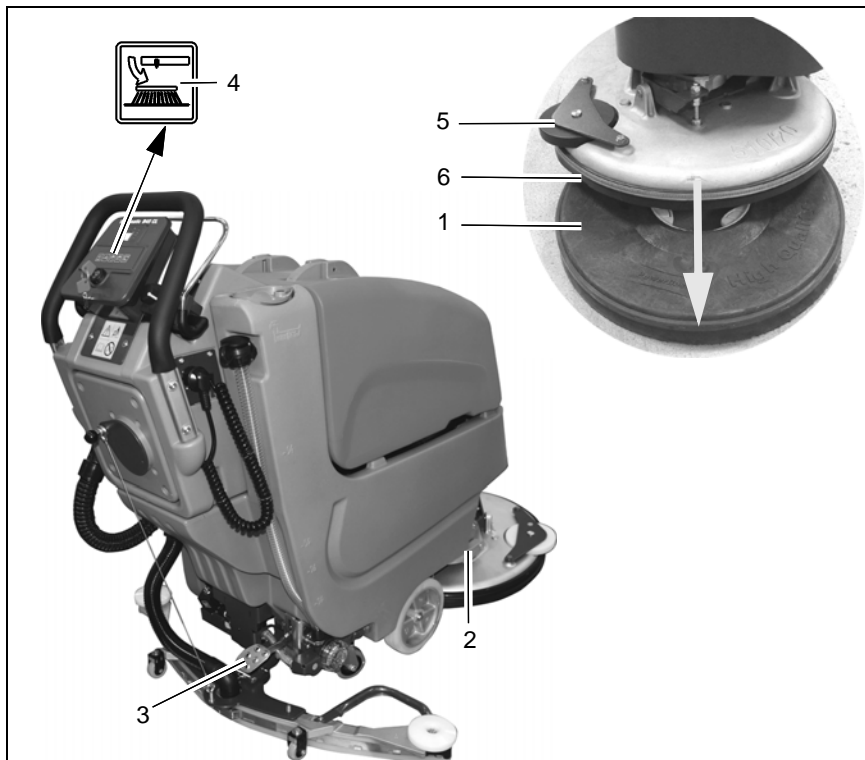

Fig.15
Check the brushes (Fig. 15/1) in the brush head (Fig. 15/2) weekly for signs of wear. In the case of wear to a brush length of 1.5 cm, the brushes must be changed.
Raise the brush head using the lever (Fig. 15/3). Press the button (Fig. 15/4) for approx. 5 seconds when the brush head is raised. Brush ejection is indicated in the indicator field by four icons which light up successively.
Check the deflector roller (Fig. 15/5) weekly and change it as necessary.
Check the sealing strip (Fig. 15/6) weekly and change it as necessary. To do this, loosen the fastening device and remove the sealing strip. Installation is carried out in the reverse sequence.
Clean the brushes in the brush head (Fig. 15/2) daily or as necessary.
1. Raise the brush head using the pedal (Fig. 15/1).
2. Press the brush ejectors (Fig. 15/5) downward and remove the brushes to clean them.
Check the brushes (Fig. 15/4) in the brush head weekly for signs of wear. In the case of wear to a brush length of 1.5 cm, the brushes must be changed.
2. Press the brush ejectors (Fig. 15/5) downward and remove the brushes
Check the deflector roller (Fig. 15/3) weekly and change it as necessary.
Check the sealing strip (Fig. 15/5) weekly and change it as necessary. To do this, loosen the fastening device and remove the sealing strip. Installation is carried out in the reverse sequence.